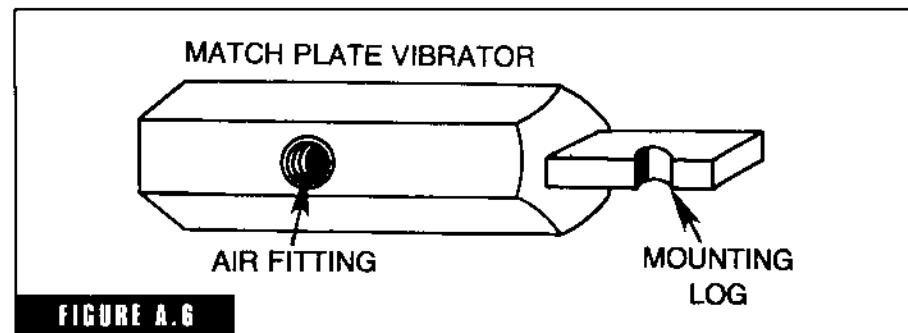

FIGURE A.6
**air vibrator** Any pneumatic type of vibrator (Fig. A-6). There are two basic operating principles. One is the free piston type where air is introduced into the cylinder and the piston shuttles back and